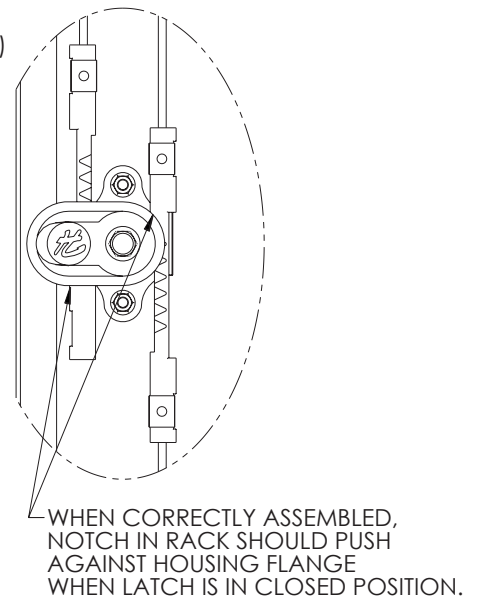

FIGURE 2
**Step 3** – Assemble handle to latch housing as shown in figure 2.